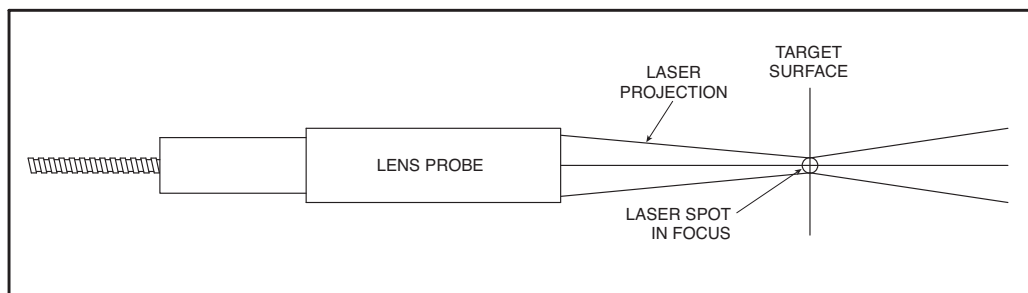

Figure 12. Typical Laser Projection Through the Lens Which Represents the Optical Field of View of the Lens Probe
- Press the **LASER SET** key on the back plate to turn on the laser beam. The laser power red LED indicator will turn on. The laser beam is projected through the lens probe. The laser spot represents the optical envelop of the lens probe field of view. Align & position the lens probe for the proper spot size & distance. Move the lens probe forward or back until the laser projection is in focus. Figure 12 shows a typical laser projection through the lens.